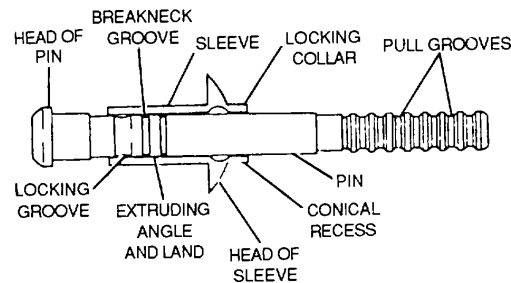

Figure 2-57. Huck Rivet
(3) *Huck rivets*. Huck rivets consist of two parts: a hollow sleeve made of 5056-H14 aluminum alloy having a universal or countersunk head with a conical recess and locking collar at the other end, and a pin made of 2024-T26 aluminum alloy which is pressed into the sleeve. The pin is provided with an extruding angle and land to expand the sleeve for hole filling, a breakneck groove, and a head. The pull grooves on the protruding end of the pin fit the jaws of the rivet tool. The rivet is shown in figure 2-57.